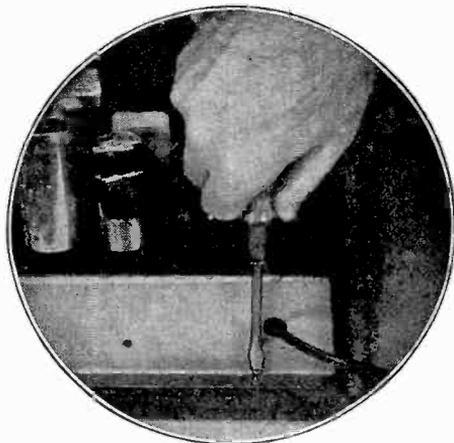

FIG. 5. Using a medium-size screwdriver to remove the chassis hold-down screws at the back of our superheterodyne receiver.
**Removing Chassis Screws.** Next, we use a medium-size screwdriver to loosen the two wood screws which fasten the chassis base to the bottom of the receiver cabinet, as illustrated in Fig. 5.